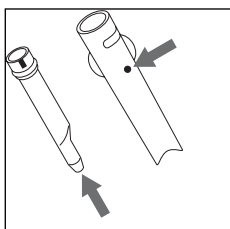

fig. 23
5. Check that the two holes shown in fig. 23 are not blocked. If necessary, clean them with a pin.